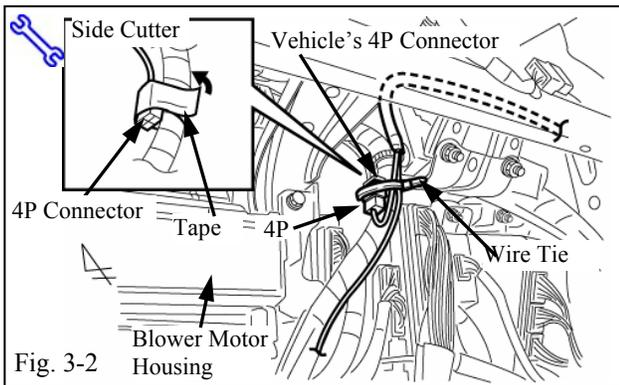

Fig. 3-2
- (b) Locate the Vehicle's pre-wire White Female 4P connector on the right side of the Blower Motor Housing. (Fig. 3-2)
- (c) Remove the Tape securing the 4P connector. (Fig. 3-2)
- (d) Connect the V5 Harness' 4P Connector to the Vehicle Harness' 4P connector. (Fig. 3-2)
- (1) Verify secure connection.
- (e) Use 1 Wire Tie to secure the 4P Connectors to the Vehicle Harness. (Fig. 3-2)